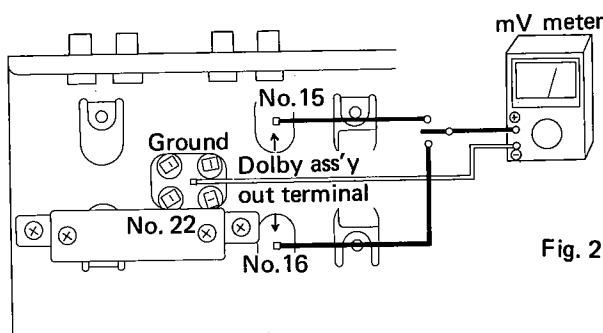
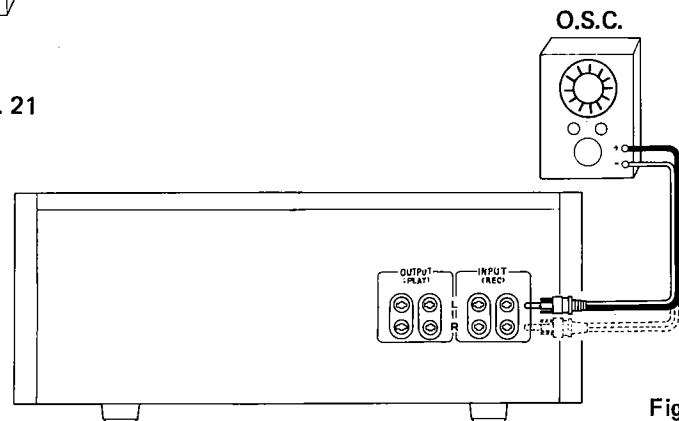

Fig. 21
Fig. 22
9.3 PLAYBACK LEVEL (Fig. 21)
9.4 0VU ADJUSTMENT (Fig. 21, Fig. 22)
9.9 RECORDING LEVEL (Fig. 21, Fig. 22)
9.12 LEVEL METER SCALE ACCURACY (Fig. 21)
9.13 DOLBY ADJUSTMENT (Fig. 21, Fig. 22)